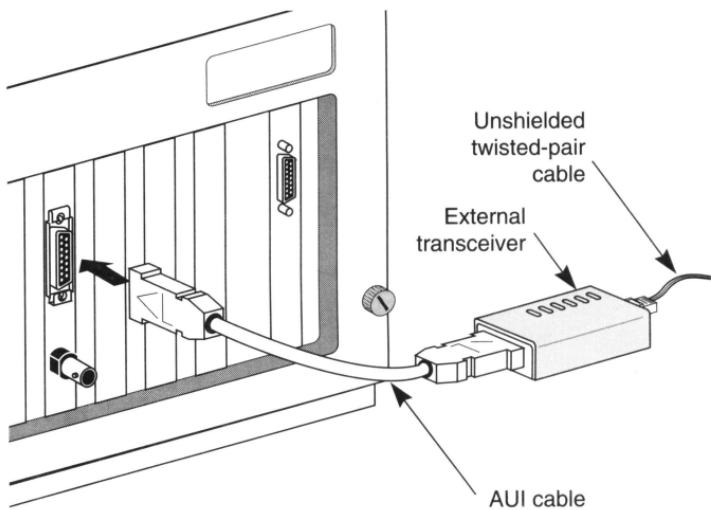

Figure 5-6. Example of Attaching the External Transceiver
3. Connect the other end of the AUI cable to the external transceiver, as shown in Figure 5-6.